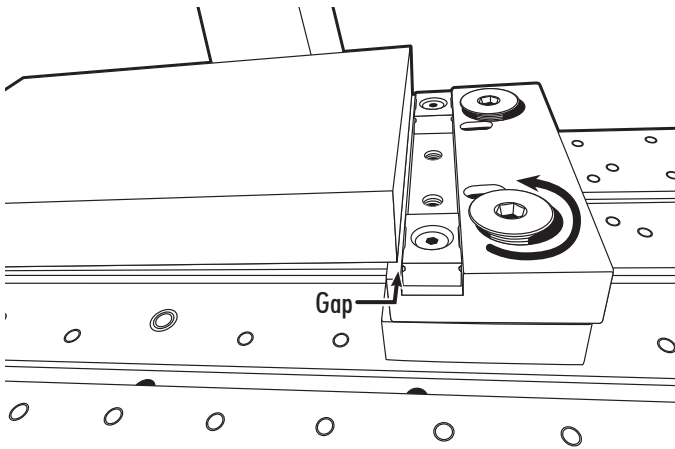

FIGURE 16
14. With your movable jaw assembly locked down in this orientation, a 1/4 turn CW of the 82° screw will secure the part. One full turn of the 82° screw CCW will release the part (see Figure 16).